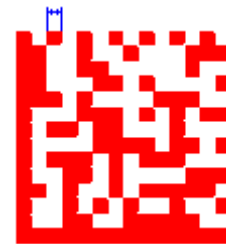

Figure 4-23 Data Matrix Barcode Width
**Narrow Width:** the width of the unit bar (Figure 4-23)